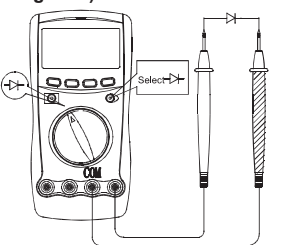

Figure 7
E. Testing Diodes (See Figure 7)